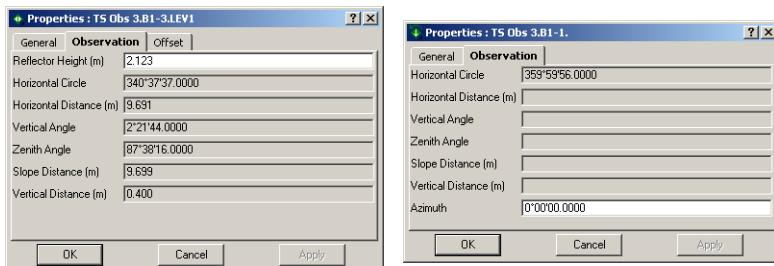

Figure 4-69. TS Properties – Observation Tab
2. On the **Properties** dialog box, click the *Observation* tab (Figure 4-69).